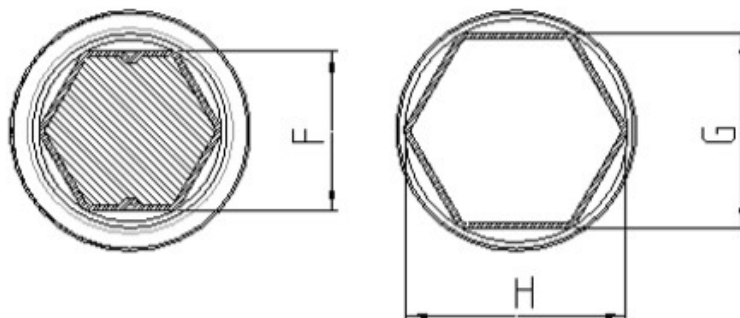

Figure 10: Inspection dimensions of shield crimp
- Hex crimp dimensions per figure 10 and table 8